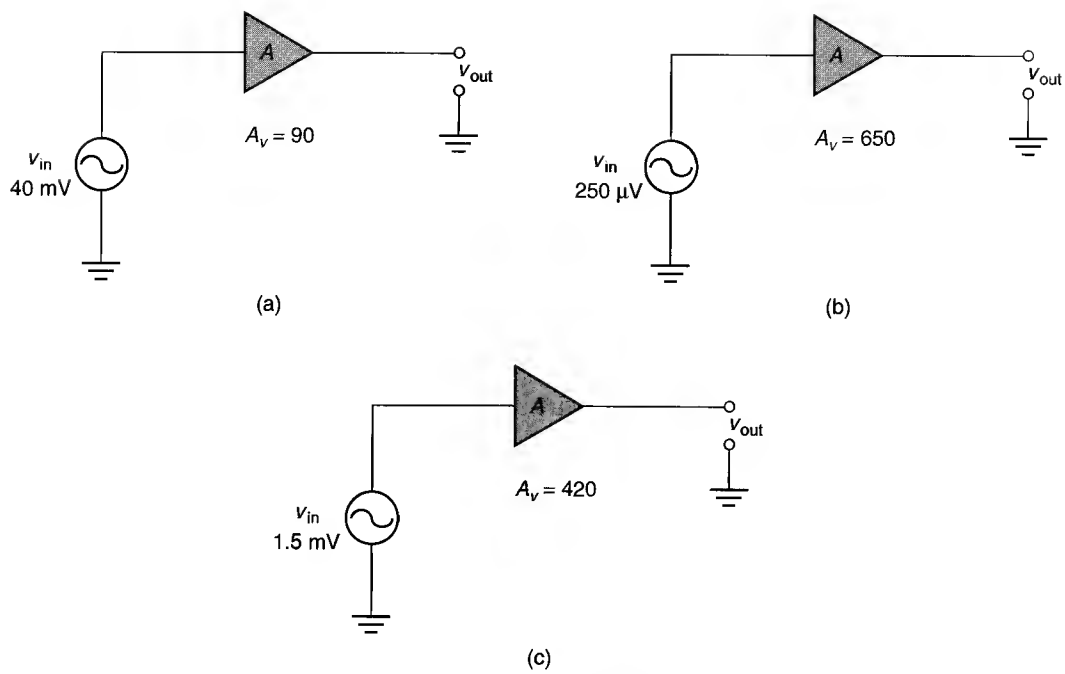

FIGURE 8.26
- Calculate the value of v_{out} for each of the amplifiers shown in Figure 8.26.